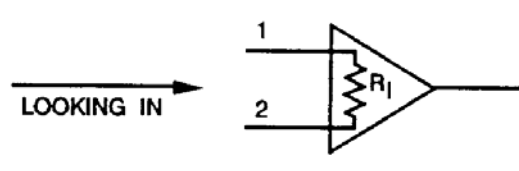

Figure Q-34. Input Resistance
(3) The gain is the output voltage (V_{O}) divided by the differential input voltage (V_{id}). The gain is listed as being infinite and is also negative, indicating inversion. This is an ideal value and will be much less because of supply voltages. An average value for gain is 5,000 to 100,000 times. This still leads one to think of tremendous output. To clear this point up, imagine a supply voltage of $\pm 20V$. The output can only be 40V P-P and the V_{id} levels would have to be very small because of such a large gain.
(4) Output offset voltage (V_{OO}) is the output voltage to ground or common when $V_{id} = 0V$. At this time, there is no difference between the two inputs so there should be no output, $V_{OO} = 0V$. In practice there is always some offset voltage; this is not very serious because external components can be added to correct the offset voltage to the 0 state.
(5) This 0V offset voltage state is referred to as common mode rejection (CMR). Ideally, CMR would be 0V but in practice there is some common mode (CM) voltage at the output even though there is no difference at the input.
(6) The input resistance (R_i) is the resistance looking into the two inputs as seen in Figure Q-34. Ideally this value is ∞ ; however in practice, the value ranges from about 5k to more than 20M. This value is measured in the open loop hookup and can be increased by adding feedback so that op amps can be used with high resistance signal sources.